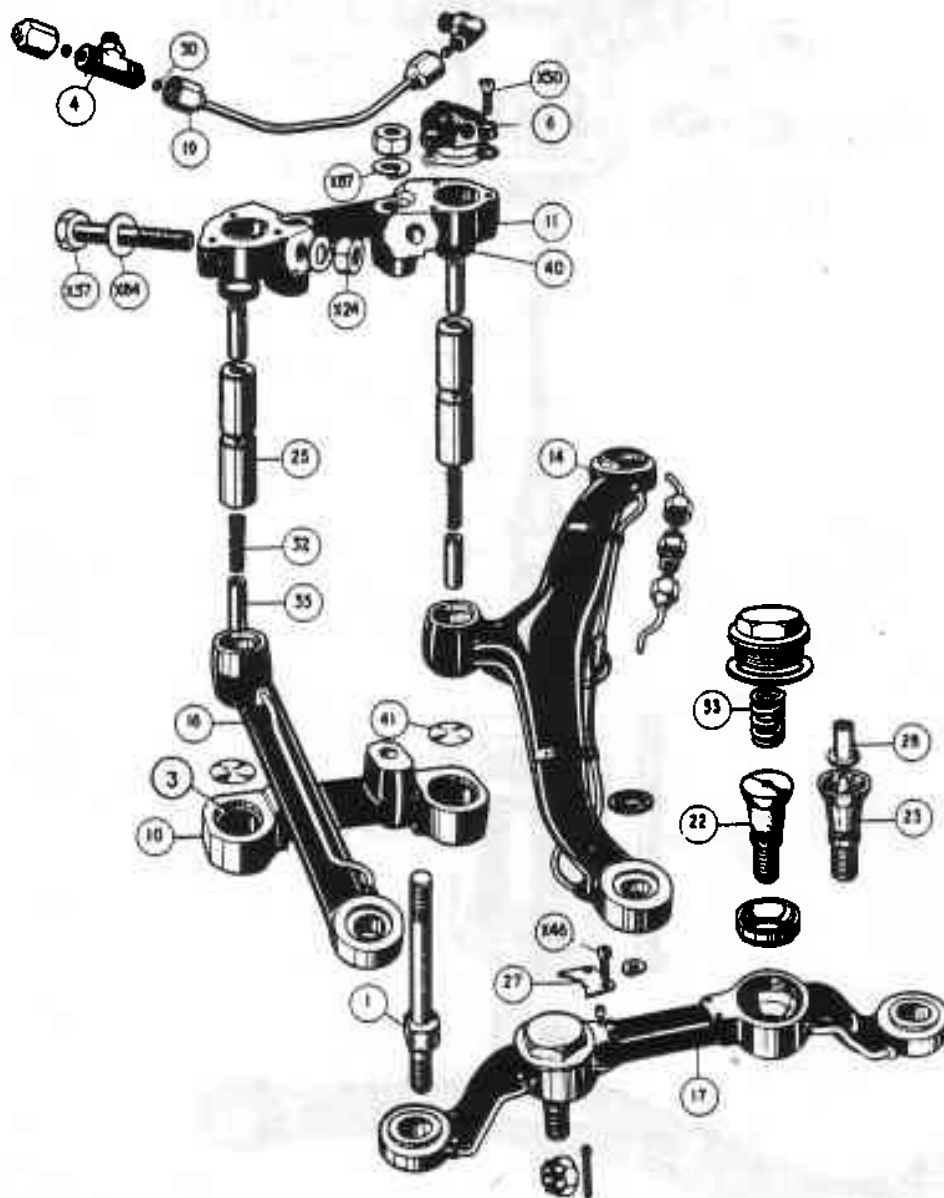
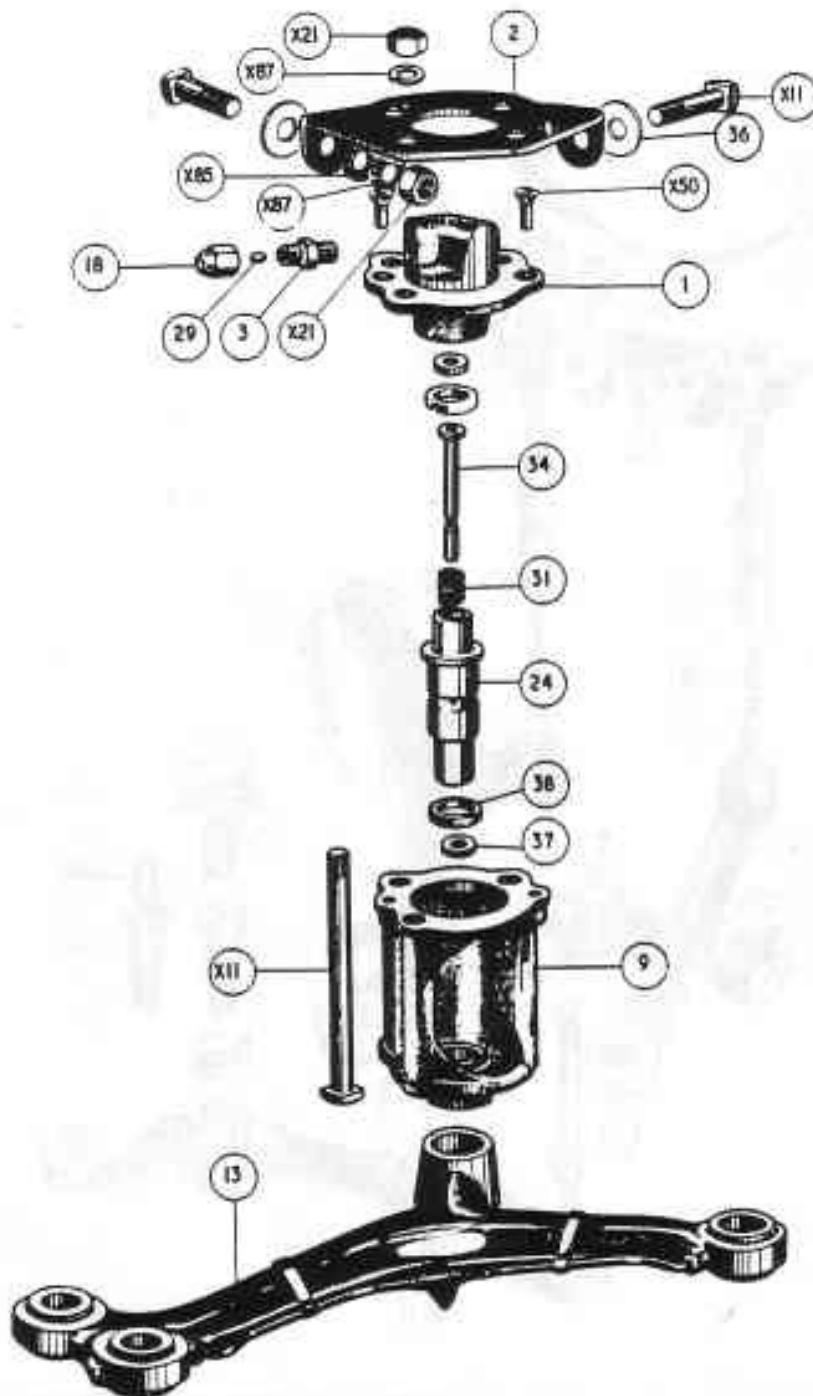

FIG. H11. "EXPLODED" VIEW OF SWIVEL PIN HOUSING AND CENTRE STEERING LEVER
FIG. H12. STEERING LEVER FITTED PRIOR TO BENTLEY CHASSIS NO. B-1-GT, SILVER WRAITH WCE-1, and SILVER DAWN SCA-1.
Oil under pressure from the centralised chassis lubrication system, is delivered to the drilled top cover, (6, Fig. H11 and 1, Fig. H12). It then passes down the passage in and through two small diameter holes in the stem of the spring loaded restrictor, (35, Fig. H11 and 34, Fig. H12), to lubricate the upper and lower bushes. The clearance being arranged to meter the correct amount.
The swivel pins (25, Fig. H11 and 24, Fig. H12), are also drilled with two small holes which register on annular grooves with the two small oil holes in the restrictor, and an oil passage in the centre steering lever. The oil is then carried to the inner ball joints of the cross steering tubes and the ball joint at the front end of the side steering tube.
Nomenclature for Fig. H11:
Nomenclature for Fig. H12:
- (ii) Disconnect the oil feed pipe from top cover, remove nuts and spring washers from lower end of retention bolts (1) Fig. H11, remove the two horizontal bolts (X.57) in upper housing and withdraw assembly.
- (iii) Remove inner ball pins of cross tube centre link (17) Fig. H11, and the three countersunk screws (X.50) from top cover, lift off cover, then remove nuts from upper end of the two retaining bolts (1) and lift off upper bearing housing.
- (iv) Remove centre steering lever (14) and idler lever (16) from the lower bearing housing (10), then remove the oil restrictor valves and springs from the two levers (14 and 16).
- (v) Remove the shims (41) from inside of lower bearing housing bushes (10) and thoroughly clean all parts.